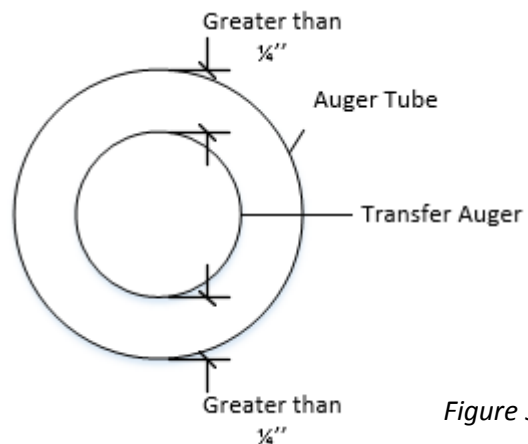

Figure 3
Step 3: Check clearance between the auger and the bottom of the tube. If clearance between transfer auger and auger tube is less than 1/4", remove a half link and adjust the bearing up. Check to make sure you have at least 1/4" of clearance to the top of the tube as well. (Figure 3)